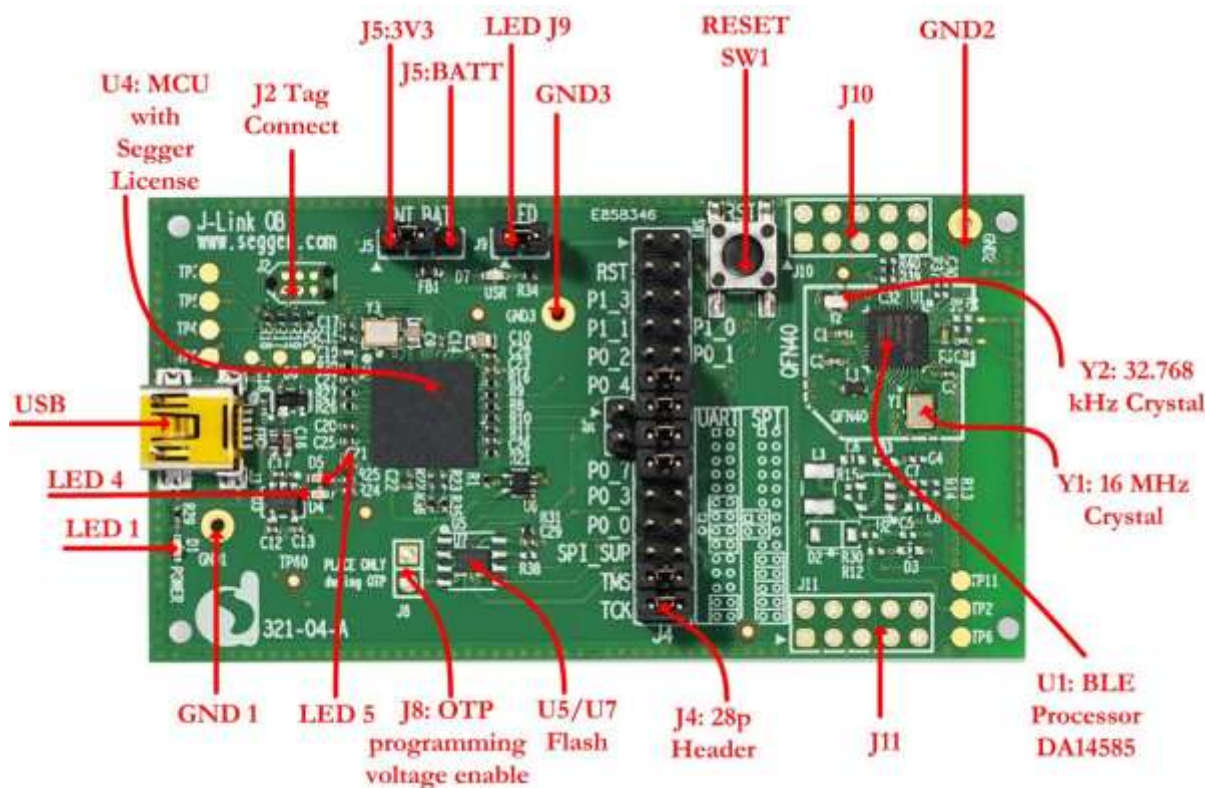

Figure 6: DA14585/586 Basic Board layout
The layout of the basic board is displayed in **Figure 6**.
Note: The basic Kit is connected to the host PC over the connector marked as USB (J3), as shown in Figure 6 using a standard mini-USB cable.
1. Connect the Basic Development Kit board to the PC via USB cable. The location of the board's USB port is shown in **Figure 6**.